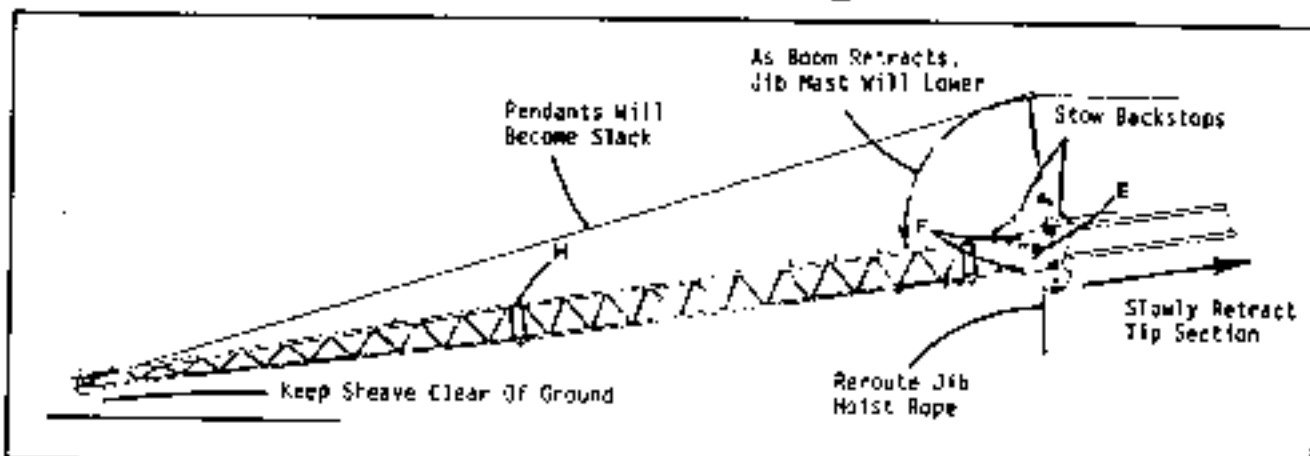

Fig. 4-49
- Step 3: Swing back ears of jib sheave rope guard and pin. Remove the hoist rope from the jib sheave and reroute through the boom head machinery as shown in Fig. 4-49.